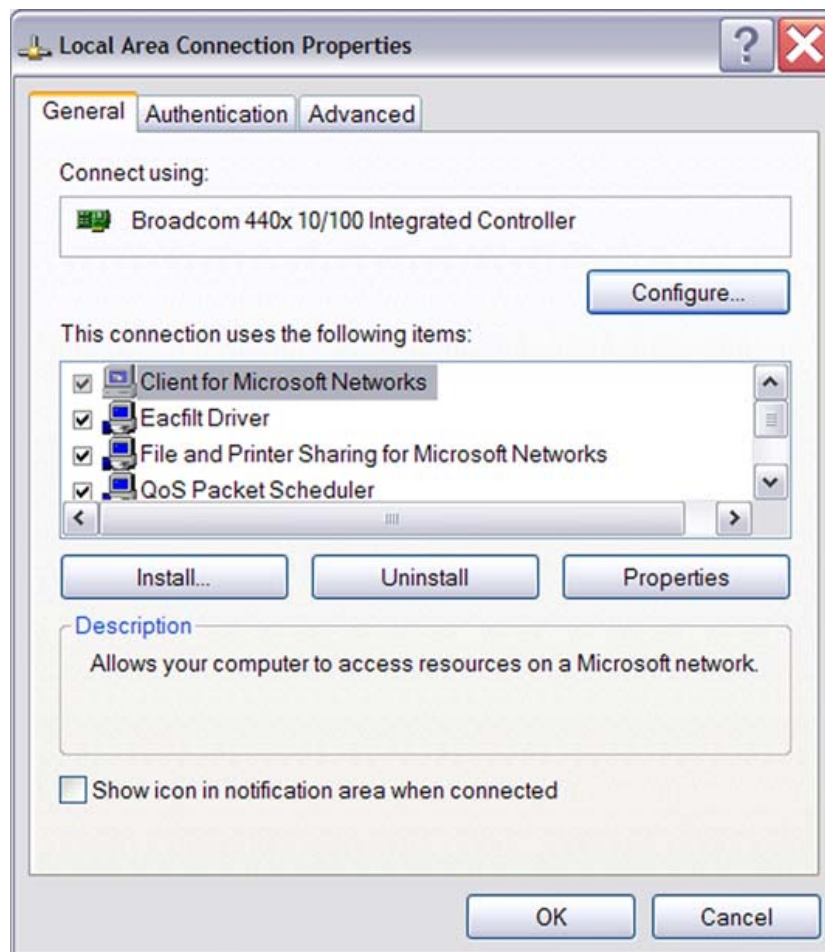

Figure 8. The Local Area Connection Properties Dialog
3. In the Local Area Connection Status dialog box, click the Properties button. The Local Area Connection Properties dialog box appears (Figure 8).